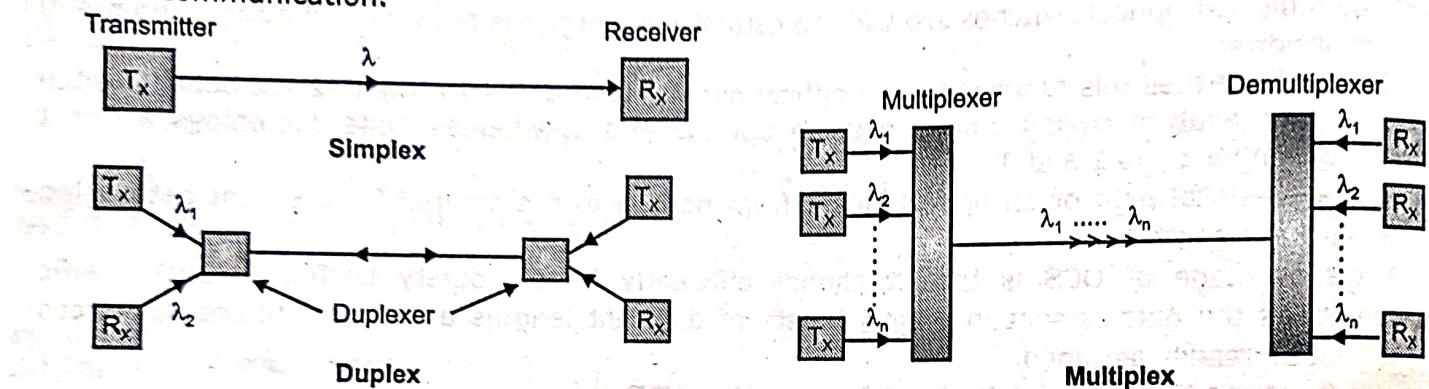

Fig. 3.6: OFC Operating Modes Showing WDM
- The technology is illustrated in Fig. 3.6, where a conventional i.e. single nominal wavelength optical fiber communication system is shown together with a duplex and also a multiplex fiber communication system.
- Fig. 3.6 shows the implementation of passive and active components in a typical WDM link containing various types of optical amplifiers.